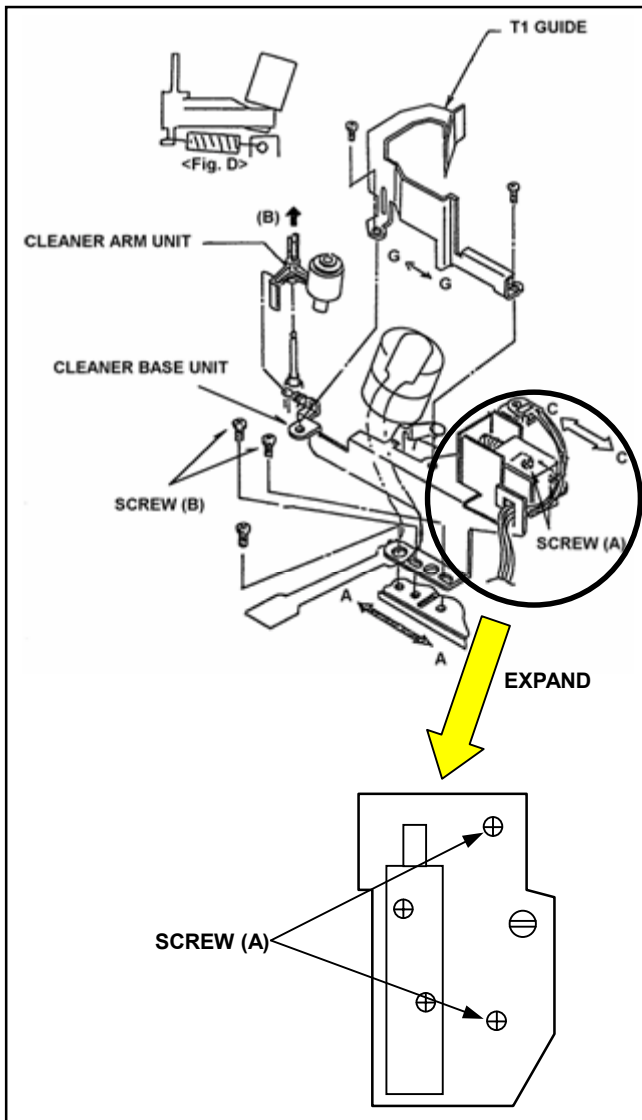

Figure 5-22-2
2. If not, loosen the 2 screws (B) as shown in figure 5-22-2 and adjust the position of Cleaner Base Plate by moving arrow direction (A \longleftrightarrow A) using the Eccentric driver so that the clearance (A) is within the specification. And tighten the 2 screws (B).